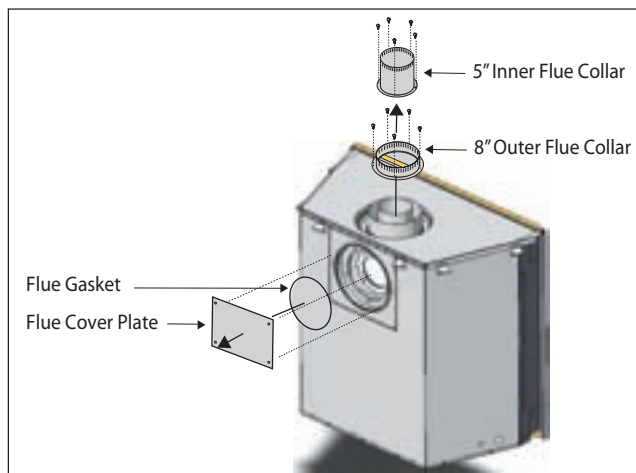

Figure 8. Flue cover and collar removal, **Top Vented** fireplace.
1. Remove the Rear flue cover and gasket (5" and 8") on the flue outlet, as shown in **Figure 8**.
2. Next, Remove the Top flue collar's (5" and 8") on the flue outlet, as shown in **Figure 8**.